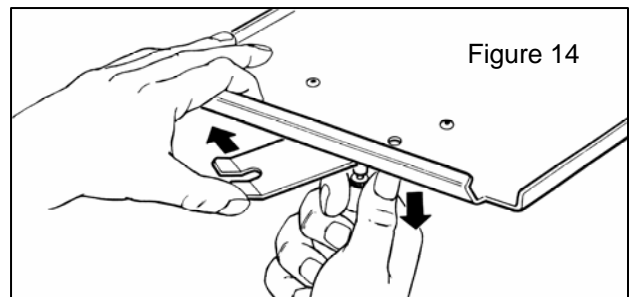

Figure 14
5. Open the interlocking adapter on the swivel top base by pulling down on the plunger and sliding the lever to the "open" position as labeled. See Figure 14. The swivel top base is now ready to receive the Light Source.